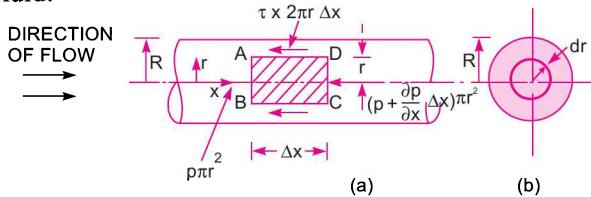

Fig. 9.1 Viscous flow through a pipe.
Consider a horizontal pipe of radius R . The viscous fluid is flowing from left to right in the pipe as shown in Fig. 9.1 (a). Consider a fluid element of radius r , sliding in a cylindrical fluid element of radius $(r + dr)$. Let the length of fluid element be Δx . If ' p ' is the intensity of pressure on the face AB , then the intensity of pressure on face CD will be $\left(p + \frac{\partial p}{\partial x} \Delta x \right)$. Then the forces acting on the fluid element are :
The average velocity, \bar{u} , is obtained by dividing the discharge of the fluid across the section by the area of the pipe (πR^2). The discharge (Q) across the section is obtained by considering the flow through a circular ring element of radius r and thickness dr as shown in Fig. 9.1 (b). The fluid flowing per second through this elementary ring